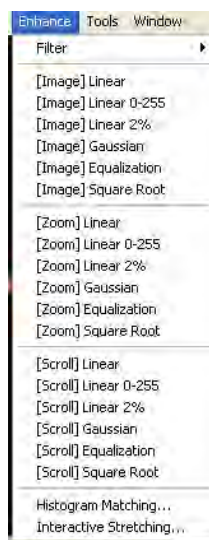

Figure 16.
1. First select the window containing the HSI image. Select the Enhance menu. A drop down list shows the built in options (see Figure 16).